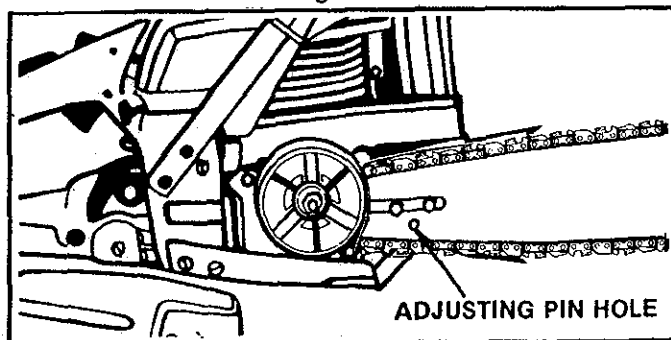
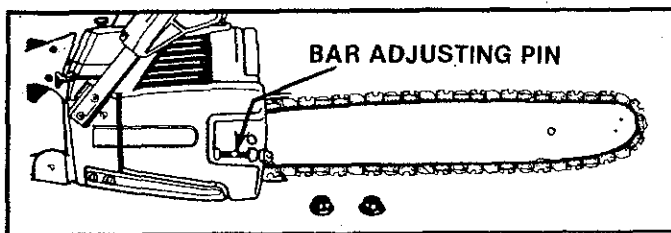

Figure 12
Figure 13
8. Pull the Guide Bar forward until the chain is snug in the guide bar groove. Figure 12 .
10. Slide the Bar Clamp Housing over the mounting studs and fit the bar adjusting pin (Figure 13) into the adjusting pin hole in the Guide Bar. Figure 12 .